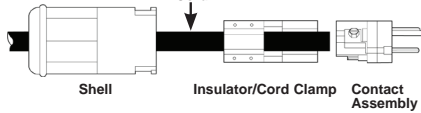

Figure 2
- Slide shell onto cord. Loosen 4 cord clamp screws and slide insulator onto cord. (See Figure 2.) Move shell & insulator up the cord & away from cord end so you can freely work on the cord end and prepare the conductors for termination.